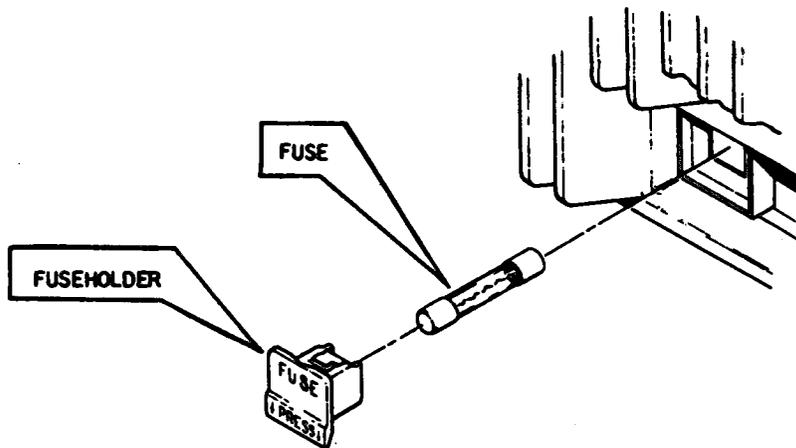

Figure 2-3 Internal Power and AC Line Fuse Replacement (FM/AM-1100S)
**2-13. INTERNAL POWER AND AC LINE FUSE REPLACEMENT (FM/AM-1100S) FIGURE 2-3.**